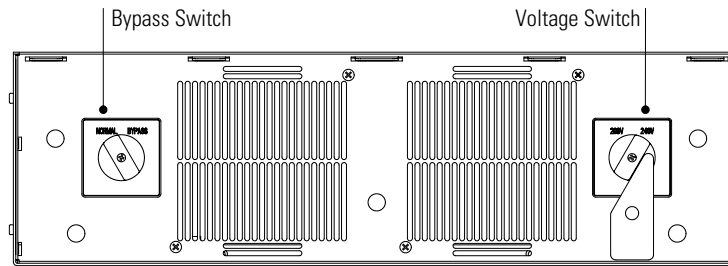

Figure 9. PDM (with Front Cover Removed)
4. Verify that the bypass switch on the PDM is in the NORMAL position (see Figure 9).
5. **Changing the PDM voltage switch setting.** When the PDM voltage switch is set to the 240V position (the default) with 240V input, the output voltage is 240/120V. When set to the 208V position with 208V input, the output voltage is 208/120V. See Table 1 for a list of PDM input/output voltage settings. Figure 9 shows the voltage switch.